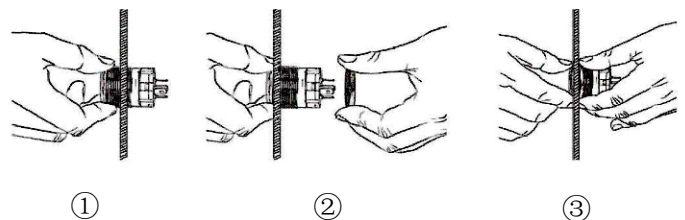

Figure 3: Product installation steps
4.5 Product installation steps are shown in Figure 3